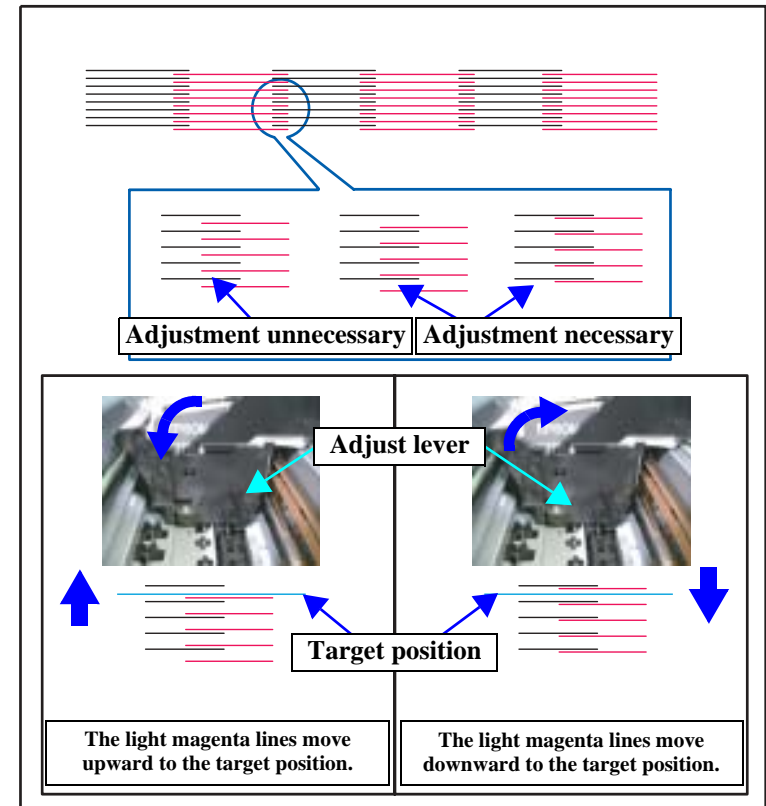

Figure 5-16. Adjust Lever and Head Angular Adjustment Check Pattern
- Refer to Figure 5-16 and move the Adjust lever, and while pressing both ends of the Head fastener against the far side of the CR, tighten the fixing screws.